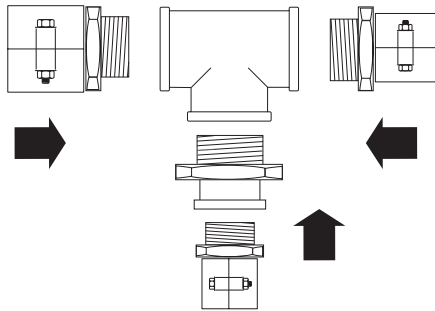

Figure 4-65: Assemble the connection
4. Assemble the connection. See **Figure 4-65** for an example of a tee connection, and refer to **WIPEX Fittings** on **pages 41-43**.